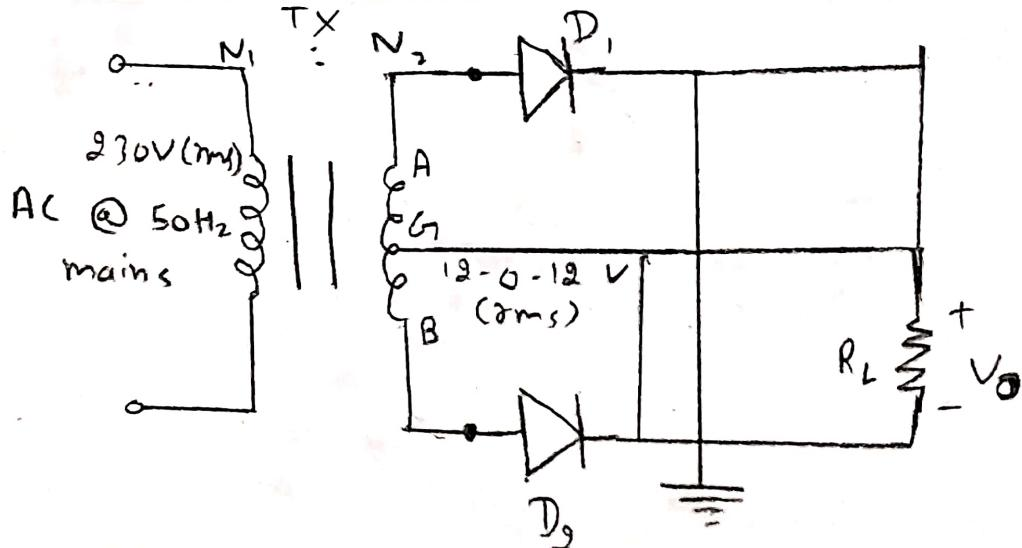

Figure 2: Centre tap full wave Rectifier circuit
- Set up the circuit as shown in Fig. 2 taking  $R_L = 2.2 \text{ k}\Omega$ .
- Now, connect the function generator to circuit at points F1 & F2 as shown in Fig. 2.
centre tapped full wave rectifier that uses two diodes connected to the secondary of a centre tapped transformer, as shown in Fig. 2. The centre tap is usually considered as the ground point or the zero-voltage reference point. As shown in Fig. 2 an AC input voltage is applied to the primary coils of the transformer. The input makes the secondary ends A and B become positive and negative alternatively. For the positive half of the AC signal, the secondary point A is positive, ground point will have zero voltage and D1 will be forward biased and diode D2 will be reverse biased.
1. Set up the circuit as shown in Fig. 2. The transformer TX has rating of 230V to 12.6V, 2A. Take  $R_L = 2\text{ k}\Omega$ . Connect transformer primary to the mains and switch on the mains.
- 1.) Setup the circuit as shown in fig. 2 with the capacitor  $C$ . The transformer  $T_X$  has rating of 230V. to 12 or 12V, 1A. Take  $R_L = 1k\Omega$ . Connect transformer primary to the mains and switch on the mains. Display the secondary voltages  $V_{A2}$  and  $V_{B2}$  ( $V_{A2}$  to ch-1,  $V_{B2}$  to ch-2) on oscilloscope. Make sure that both the "probe grounds" are connected to the circuit's ground. Sketch the waveforms overlapping, with the same time and amplitude axes. They should be  $180^\circ$  out of phase. Measure the output voltage ( $V_m$  and  $V_{P-P}$ ) of the transformer in the oscilloscope.